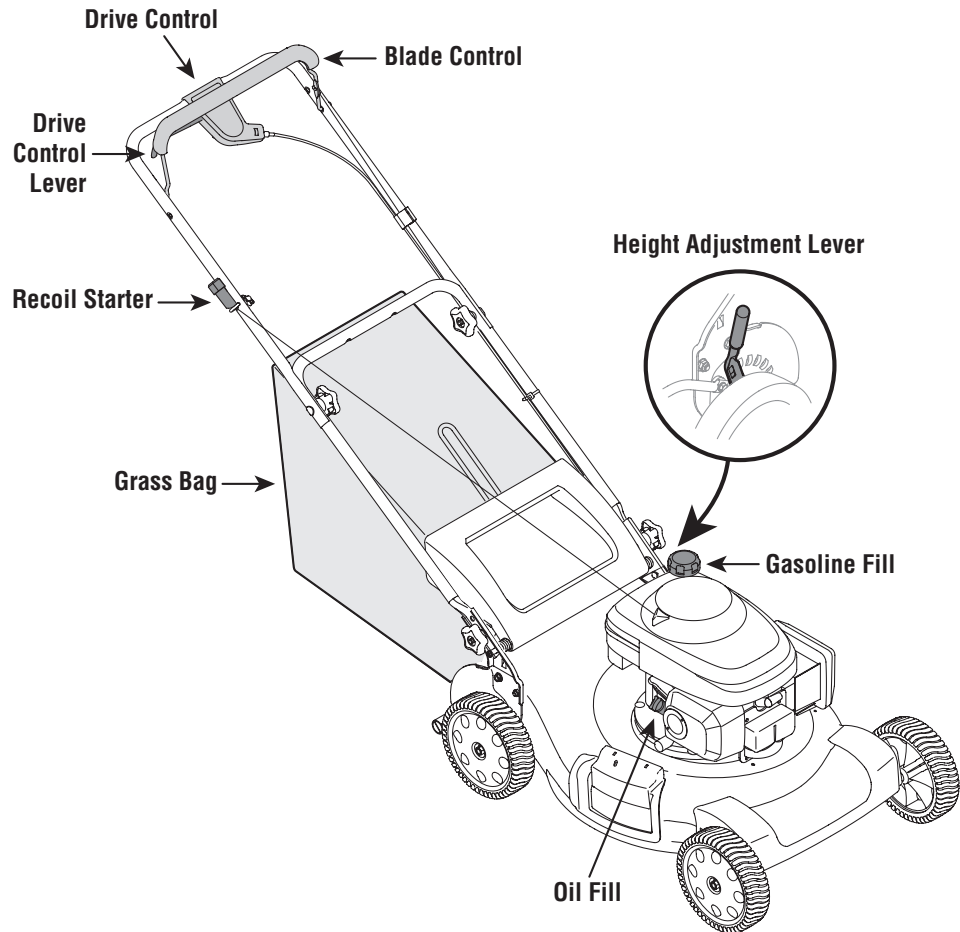

Figure 4-1: The major parts on the lawn mower.
1. Check oil level and add oil if necessary. Follow engine manual for this. See Figure 4-1 for location of the oil fill.
2. Service the engine with gasoline as instructed in the engine manual. See Figure 4-1 for location of gas fill.